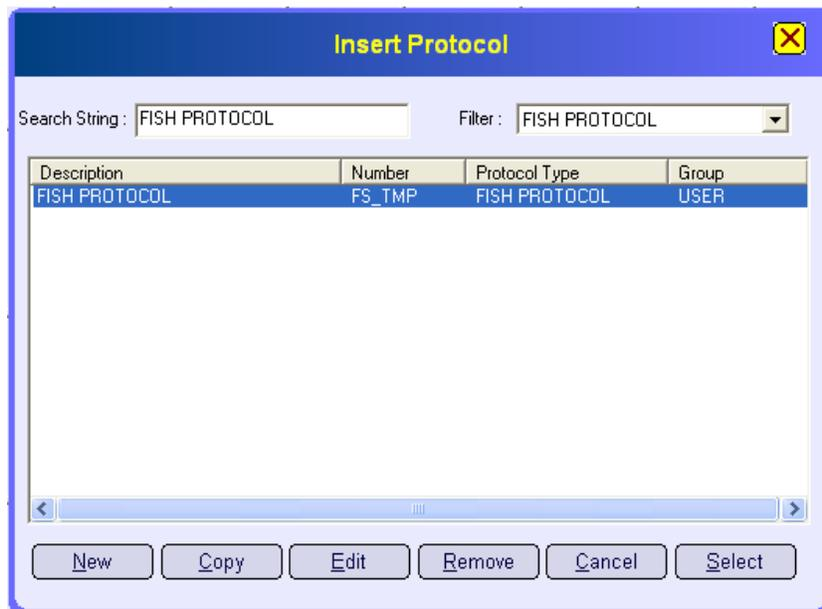

Figure 37: <Insert Protocol> <New> Window
1. From the **<Insert Protocol>** window (Figure 37), select the desired protocol and select the **<New>** button to open the **<New Protocol Editor>** window (Figure 38). For instructions on using the **<New Protocol Editor>** windows, refer to **Section 7: Using Protocol/Slide Editor Window**.